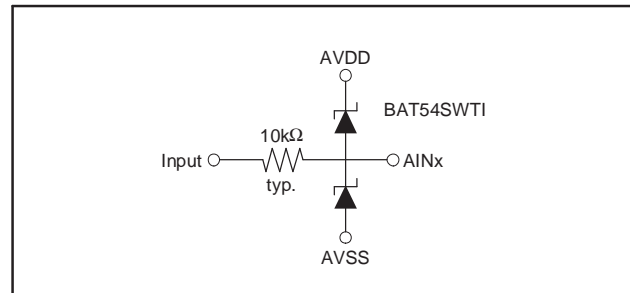

Figure 61. Input Overload Protection
- c. **Input Overload Protection:** Overdriving the multiplexer inputs may affect the conversions of other channels. In the case of input overload, external Schottky diode clamps and series resistor are recommended, as shown in Figure 61.